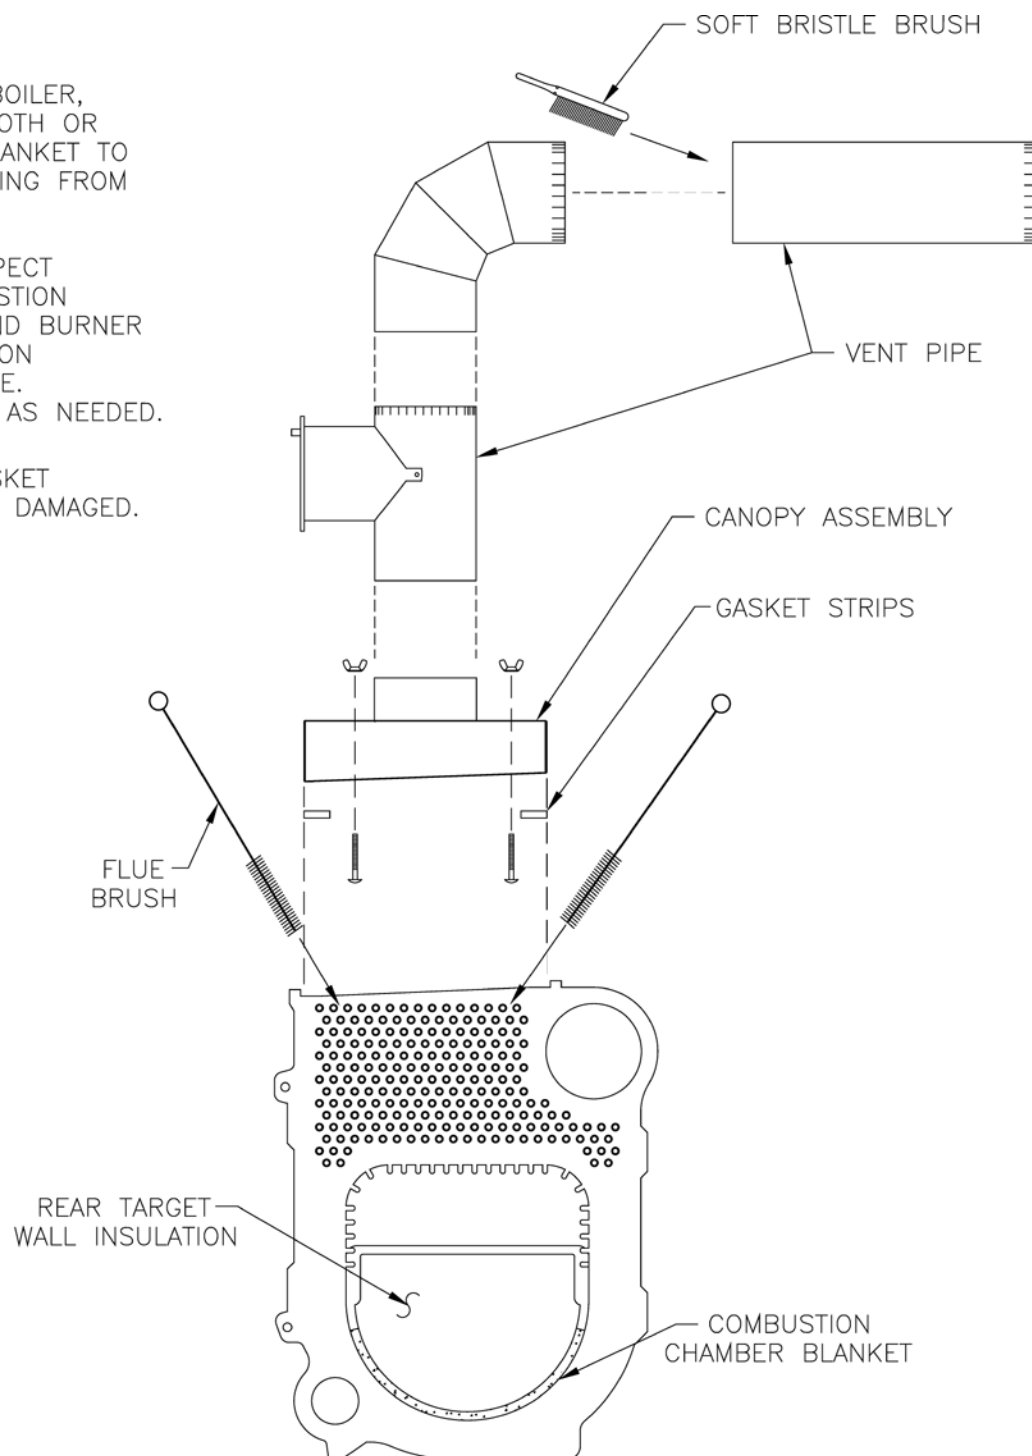

Figure 32: Cleaning of Boiler Flueways
A. CLEAN THE FLUEWAYS (SEE FIGURE 32).